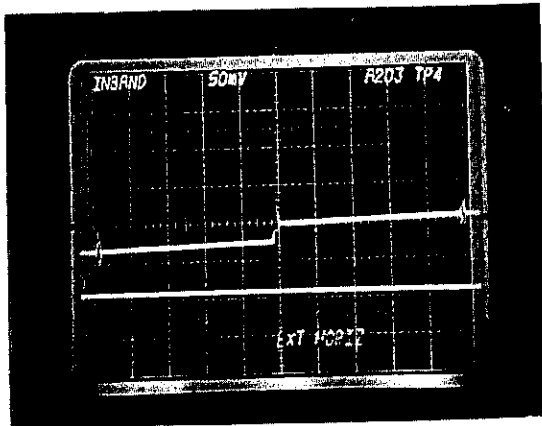

FIGURE 6-2
(3) Adjust A203R64 so the switching spike is coincident with the 250 MHz marker as shown in Figure 6-2.
(4) Reconnect cable to A204J2.